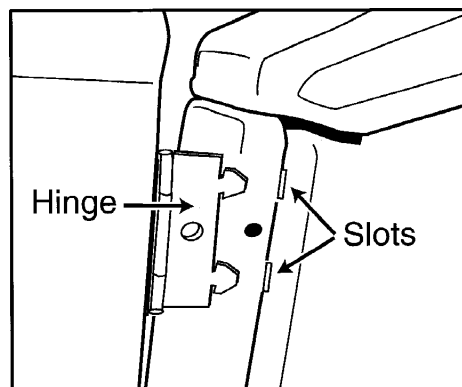

Figure 5-1
2. Grasp the door with both hands and lift the hinge area slightly. Draw the door assembly away from the machine. This will disengage the hinges from the slots in the front shroud (**Figure 5-1**). If the hinges bind, press out on the plastic shroud near the hinge toward the cabinet.